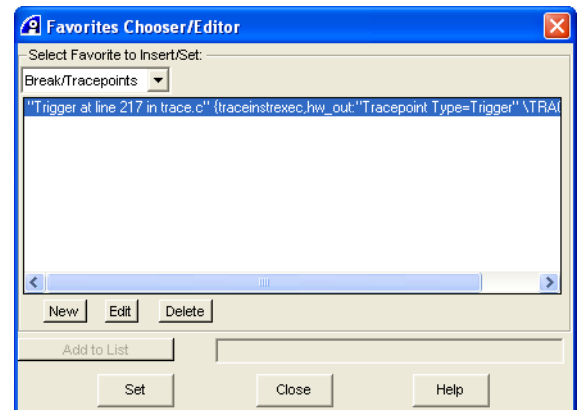

Figure 8-3 Favorites/Chooser Editor dialog box
3. Select **Debug** → **Breakpoints** → **Set Break/Tracepoint from List** → **Break/Tracepoint Favorites...** from the Code window main menu to open the Favorites/Chooser Editor dialog box. Figure 8-3 shows an example. Any previous tracepoints that have been added to the list are shown.